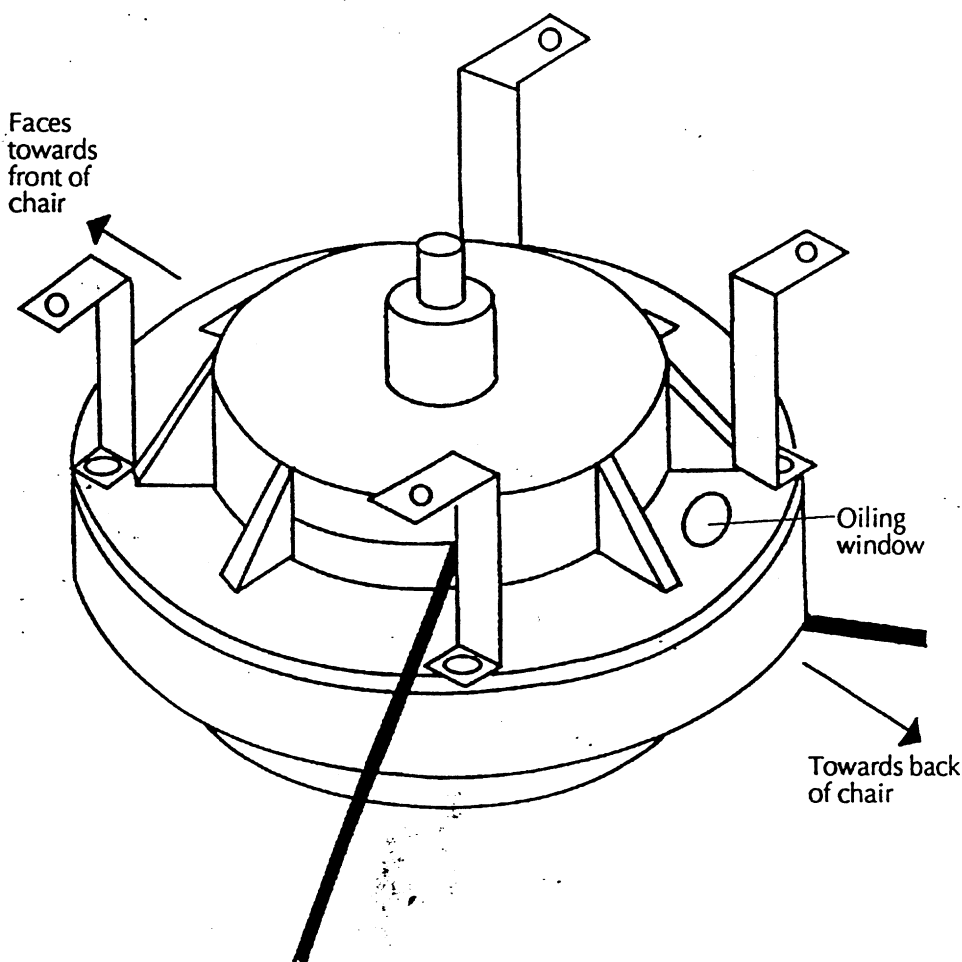

Figure 1
5. Reinstall the brake housing onto the base. See diagram for the positioning of the mounting brackets. (see Fig. 1) Oiling window should be towards the rear of the chair.